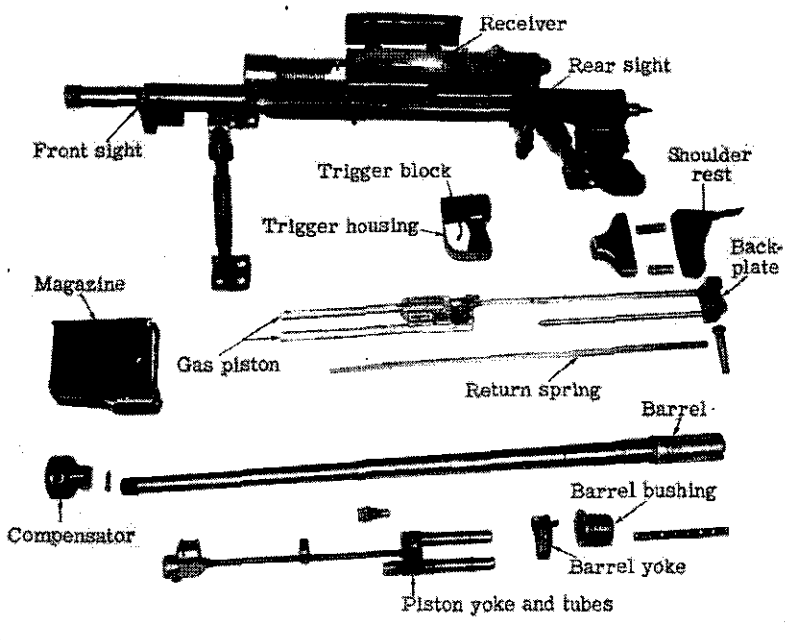

Figure 109.—Model 97 (1937) 20-mm antitank rifle disassembled.
(2) *Stripping.*—(a) *Barrel.*—Pull the retracting handle to the rear. Put the gun on "safe." Release the barrel-bushing lock. Turn the barrel bushing approximately one-sixth of a turn to the right. Then pull the barrel straight out to the front. (For disassembly, see fig. 109.)